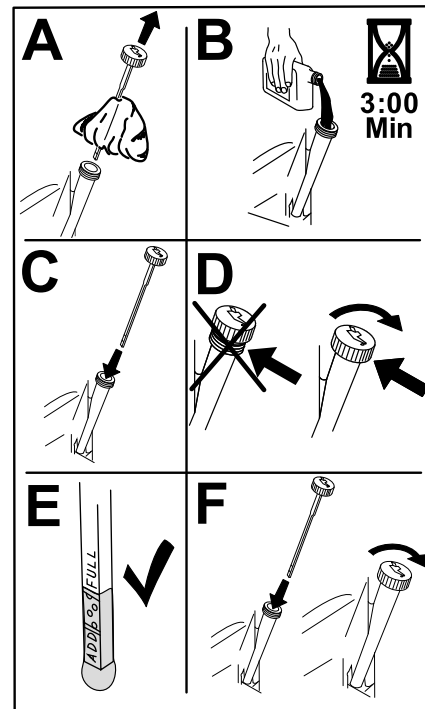

Figure 52
- Slowly pour approximately 80% of the specified oil into the filler tube and slowly add the additional oil to bring it to the Full mark (Figure 52).